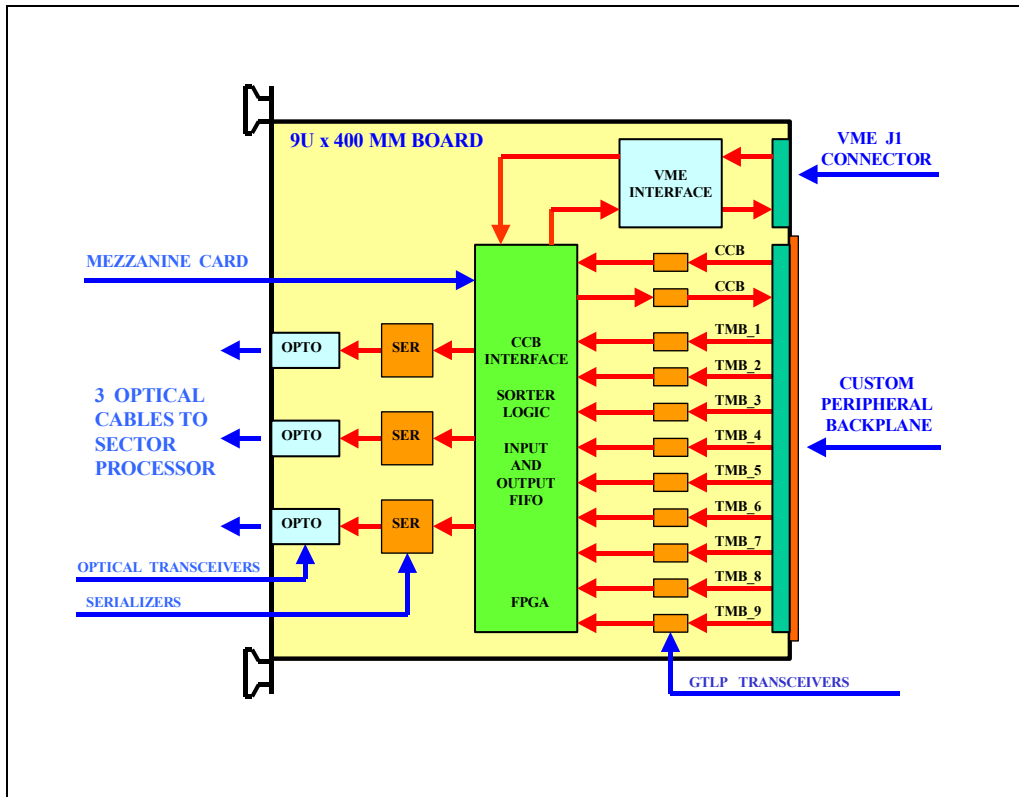

Figure1: Block Diagram of the Muon Port Card
In each of stations 2-4 of the Cathode Strip Chambers (CSC) at the CMS Experiment, the Muon Port Card (MPC2004) receives up to two trigger primitives (called Local Charged Tracks, or LCT) from nine chambers corresponding to 60 degree sectors, or 18 in total. The MPC2004 reduces the number of LCTs to three and sends them over optical links to Sector Processors (SP) [1] residing in the Track Finder (TF) crate. In station 1, it receives LCT's from eight chambers corresponding to 20 degree sectors. For this region the total number of selected LCT's is two. The MPC2004 resides in the middle of the 21-slot 9U crate that is located on the periphery of the return yoke of the CMS detector. Other slots in a crate will be occupied by the Trigger Motherboards (TMB) [2], DAQ Motherboards [3], Clock and Control Board (CCB) [4] and VME controller. All modules in the crate communicate with each other over custom backplane. A simplified block diagram of the MPC2004 board is shown on Figure 1.